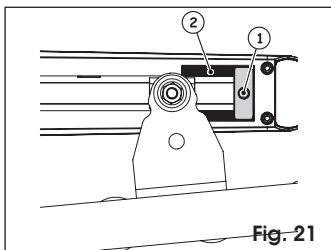

Fig. 21
3. Loosen the securing screw, figure 21 ref. ①. The screw does not need to be completely removed.
⚠ The mechanical stop is coupled to a toothed sector, figure 21 ref. ②. In the case of obstructions during movement, check that the coupling is free. DO NOT USE FORCE.